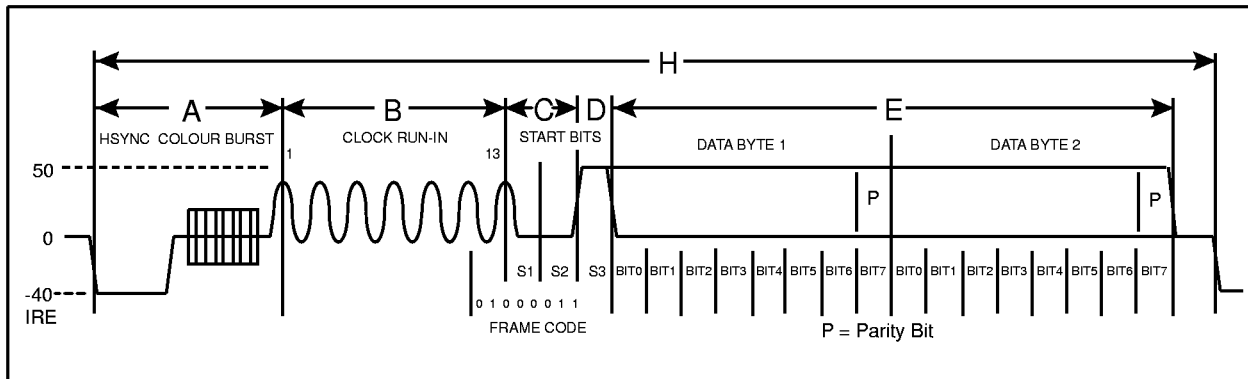

Figure 7 Closed Capation format
Two bytes of data are coded on the line 21 of each field, see figure 7. In the NTSC Closed Caption service, the default state is to code on line 21 of field one only. An additional service can also be provided using line 21 (284) of the second field. The data is coded as NRZ with odd parity, after a clock run-in and framing code. The clock run-in frequency = 0.5034965MHz which is related to the nominal line period,  $D = H / 32$ .